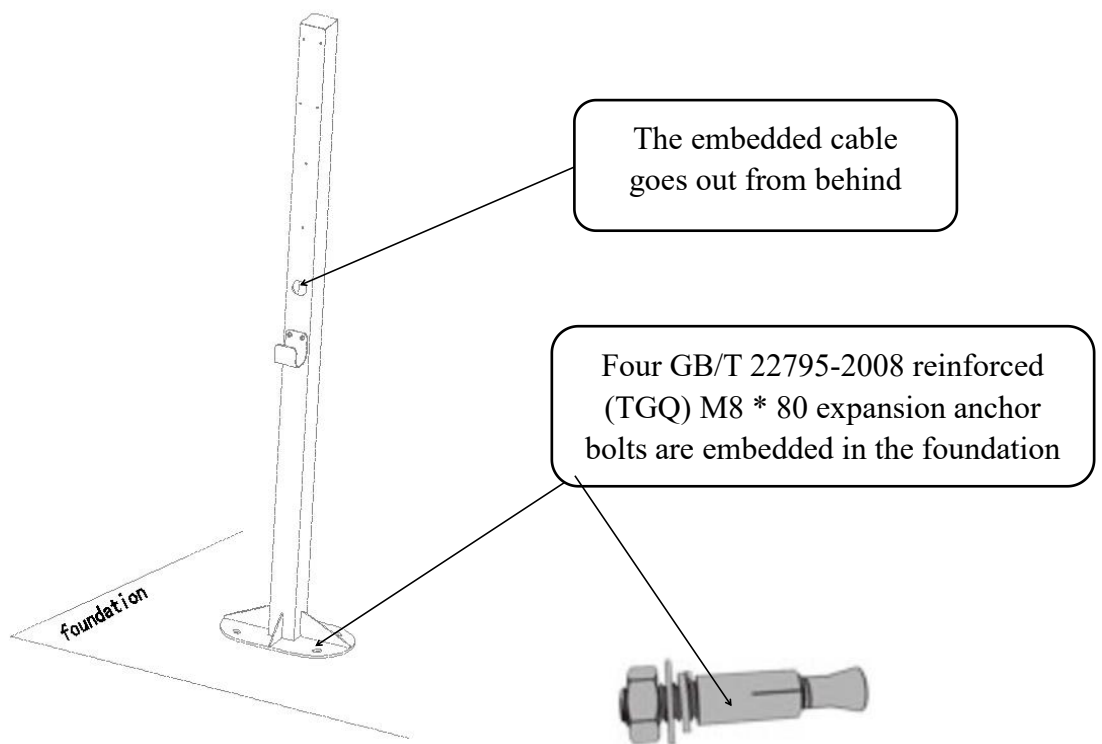

Figure 4.2-3 Column Installation Diagram
Step 3: Use a rope or iron wire to pass through the protective coil of the column first, and then tie the rope or iron wire to the end of the embedded cable after passing through the bottom of the column. Pull the rope or iron wire to pass the embedded cable through the protective coil of the column from the bottom of the column, and then fix the column on the foundation through the expansion anchor bolt. As shown in Fig. 4.2-3.